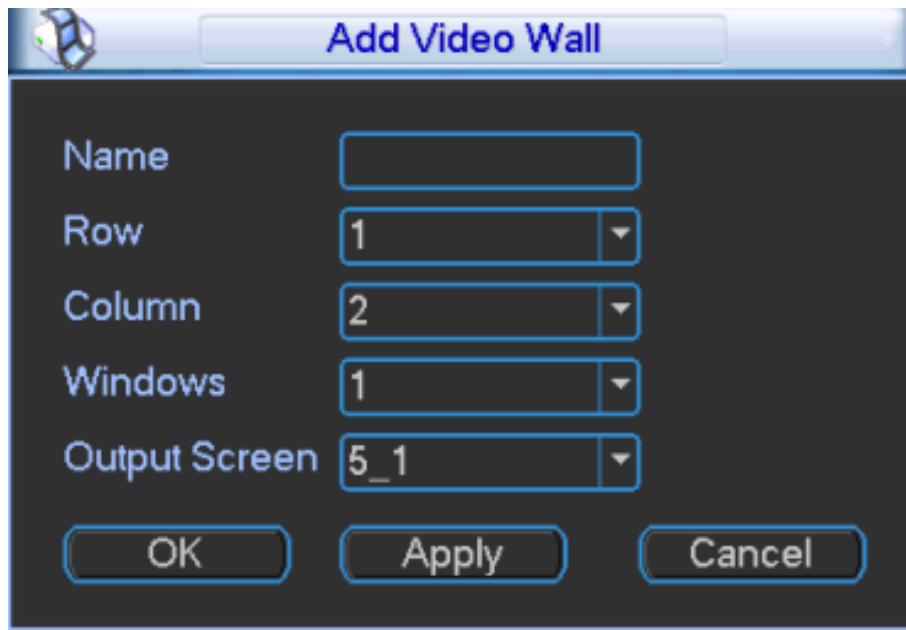

Figure 3-75
Step 1 Click "Add". The system displays "Add Video Wall" interface, as shown in Figure 3-75.